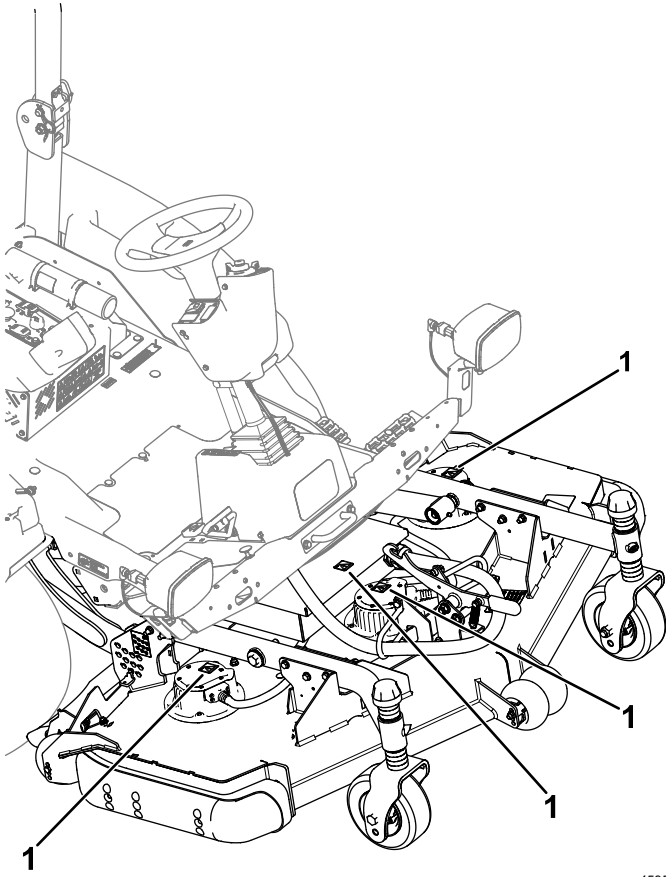

Figure 40
- Cutting-unit motors (Figure 40)
- Cutting-unit controller cover (Figure 40)